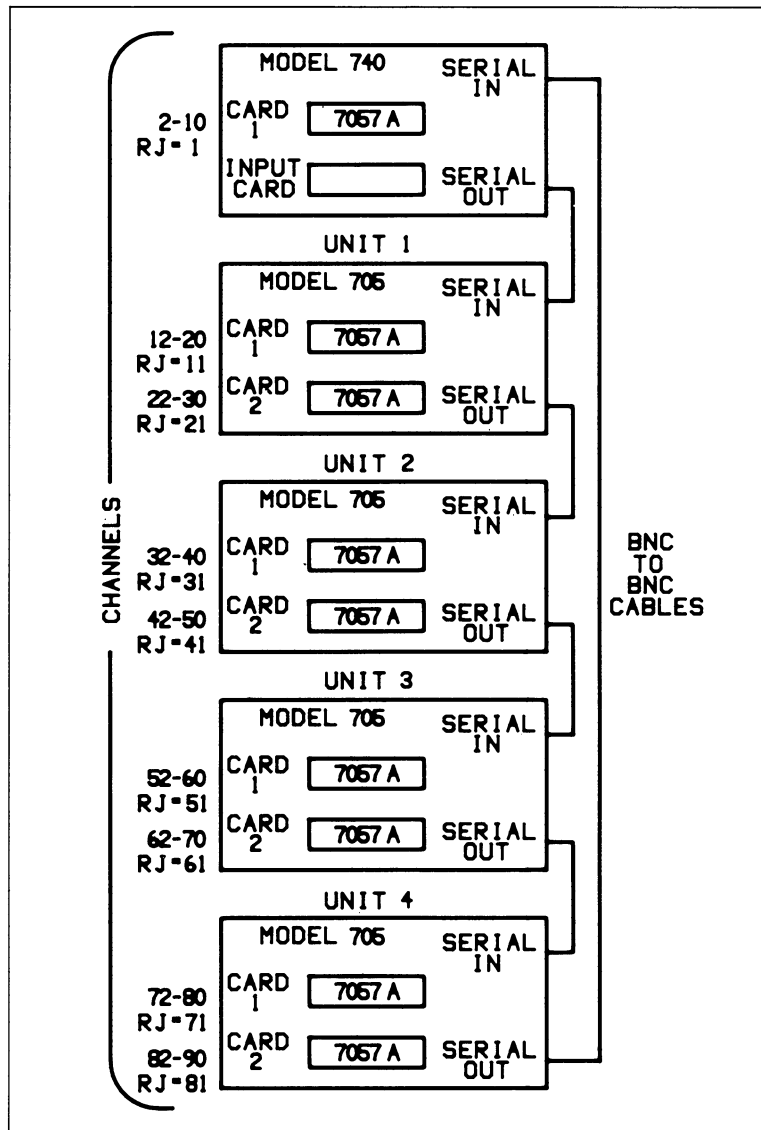
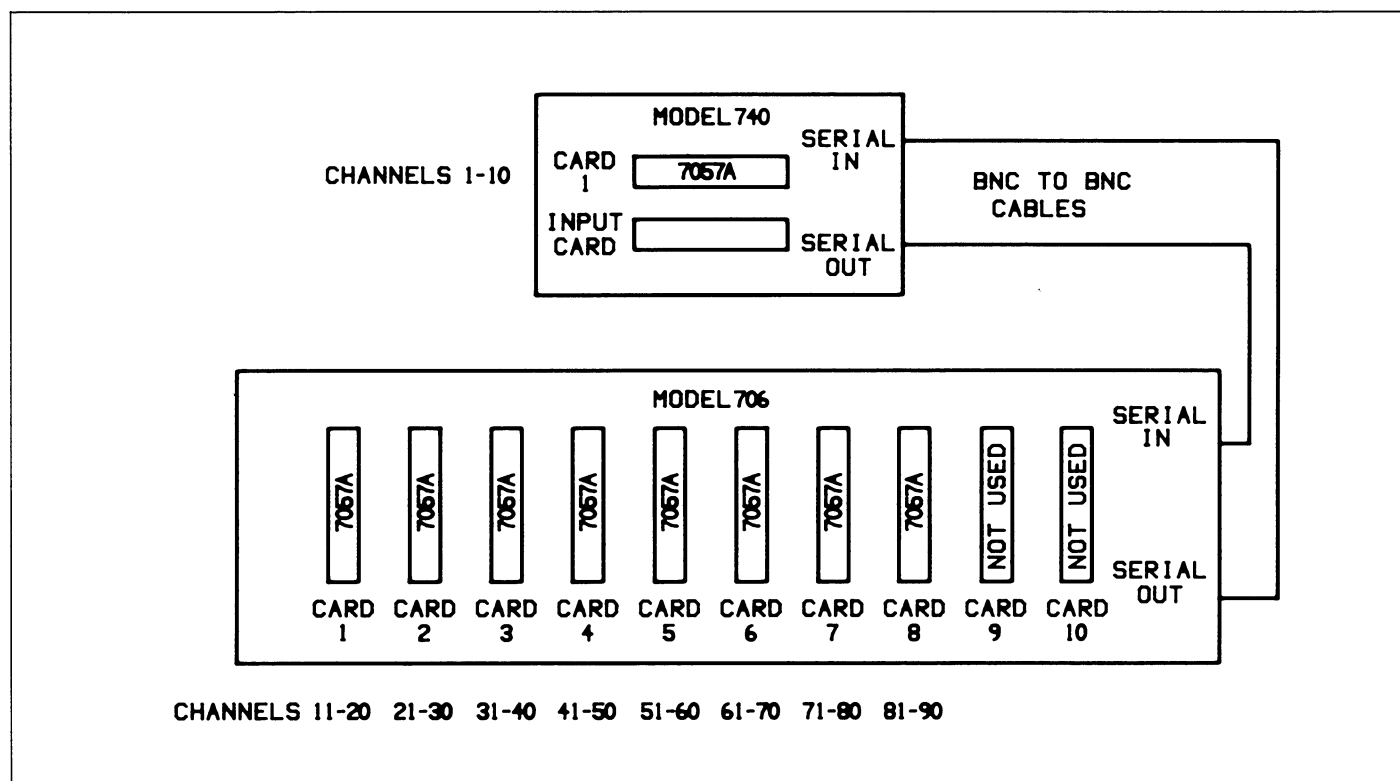

Figure 2-7. Daisy Chaining Model 705's
Figure 2-8. Daisy Chaining Model 706
SERIAL OUT—This BNC connector completes the daisy chain configuration. SERIAL OUT is connected to SERIAL IN of the Model 705 or 706. Figure 2-7 and 2-8 illustrates a daisy chain configuration.
In general, the setup to use up to eight additional scanner cards consists of connecting the thermocouples to the scanner cards, installing the cards in the Model 705s or a Model 706, and connecting the outputs of the scanner cards to the input card of the Model 740. The equipment is then serially connected together as shown in Figure 2-7 or Figure 2-8.
- A. If using a Model 706, connect the scanner to the Model 740 as shown in Figure 2-8.
- B. If using Model 705(s), connect the scanner(s) to the Model 740 using Figure 2-7, which shows four scanners, as a guide. Connect SERIAL OUT of the last scanner to SERIAL IN of the Model 740.
2. Channel number assignments are dependent on the position of the scanner cards in the system. Figures 2-7 and 2-8 show the channel assignments. If a card is not installed, those 10 channels will be unavailable to the Model 740.